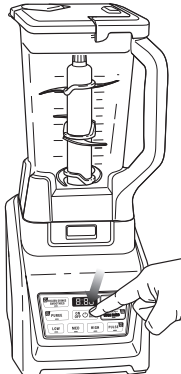

Fig. 8
- 11 When you have reached your desired consistency, stop the appliance by pressing the power button (⏻) and wait for the blade to stop turning. (Fig. 8)